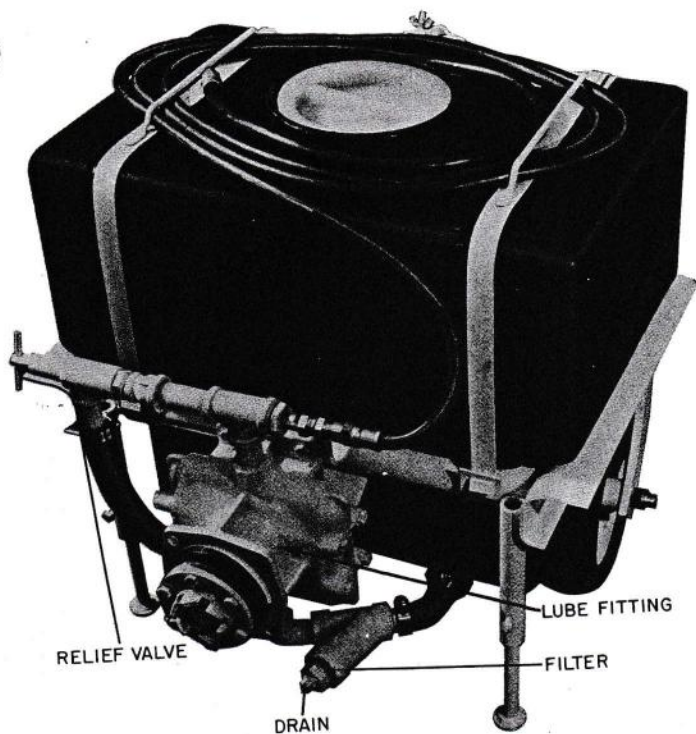

FIGURE 25
5. To spray, turn handle of Gun Jet, opening Valve sufficiently to produce desired spray pattern. Direct spray as required. If the Gun Jet Handle does not keep its position as set — tighten Packing Nut (Figure 25) gradually until handle turns easily, but stays in position.
6. The force (pressure) of the spray is adjusted by the Relief Valve (Figure 25). Screwing the Valve in (clockwise) increases the pressure, screwing the Valve out (counterclockwise), decreases the pressure.